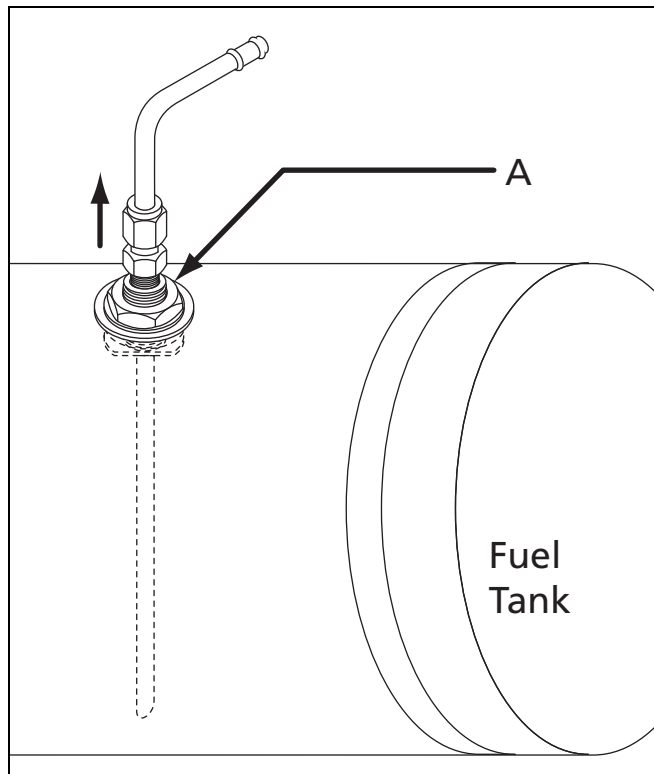

Figure 21: Standpipe installation - illustration 3
9. pull up on standpipe and tighten in place with the clamping nut (item A in Figure 21). Do not over-tighten causing rubber washer to squeeze out!